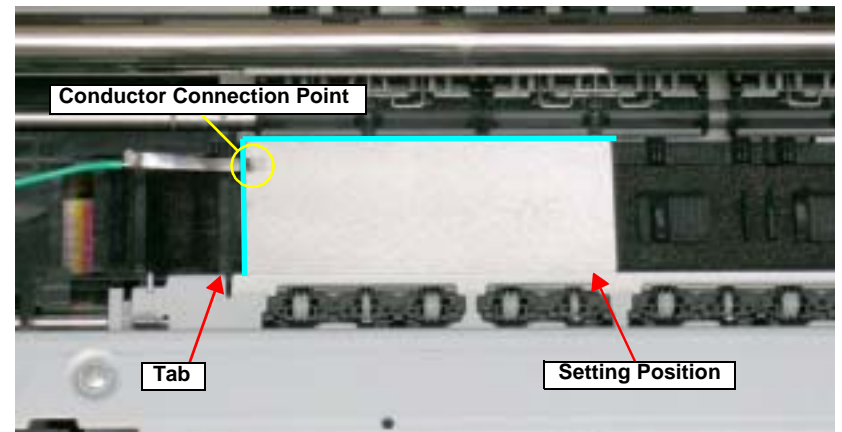

Figure 5-6. Setting the Adjustment Gauge
- Left direction: Release the left end of the Gauge from the Tab on the Front Paper Guide in Figure 5-6